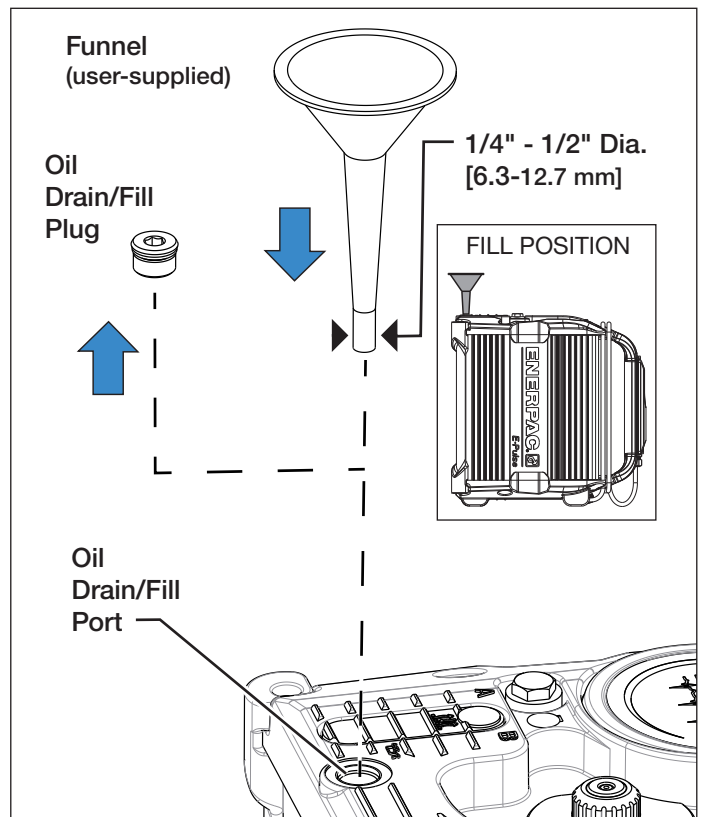

Figure 12, Adding Oil
6. Place the pump on a stable and level work surface, with the front cover facing UP, and the rear cover supported by the work surface. See Figure 12.
- Always use a funnel when adding oil. To avoid spillage and to ensure that pump internal venting functions properly during filling, funnel neck outer diameter must not exceed 1/2 inch [12 mm] or be less than 1/4" [6.3 mm]. Refer to Figure 12.